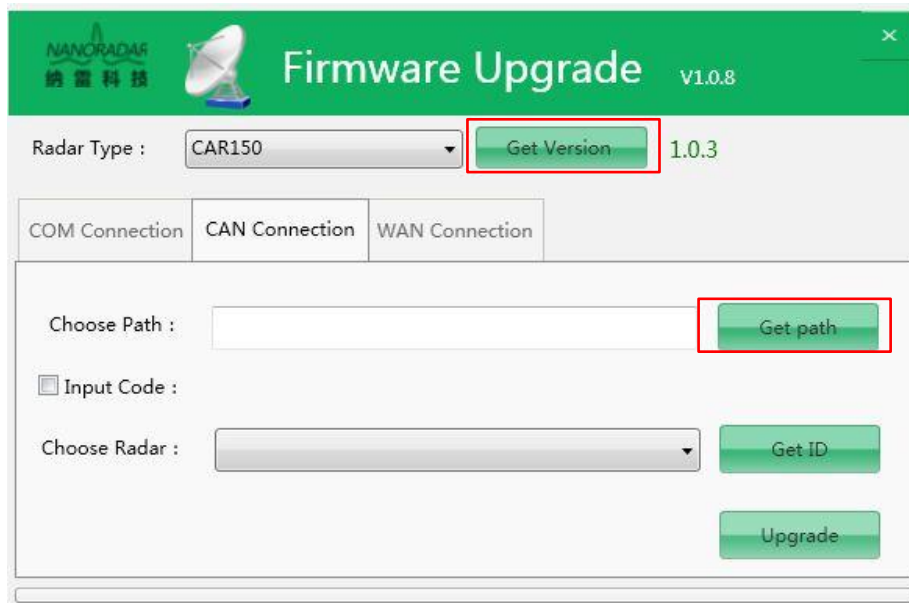

Figure 20 Get Version
b) Click on the "Get Version" button, and will get version of current radar, as figure 20.